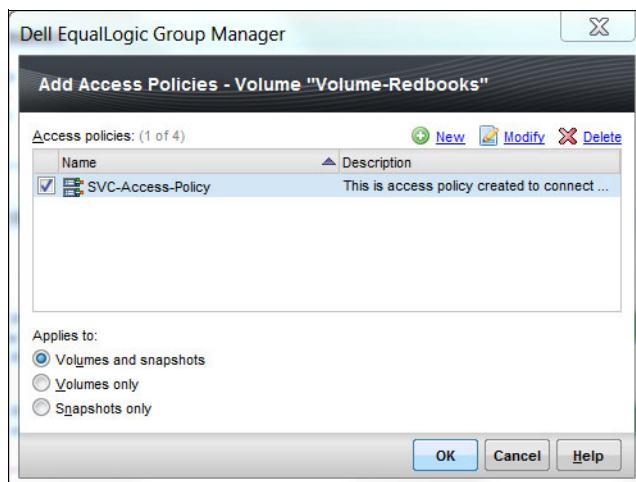

Figure 14-21 Selection of the access policy
- Select the access policy that you want to apply on the volume. You can optionally create a new access policy by clicking **New**, which takes you to the access policy creation wizard that is described in 14.2.2, “Setting up access policies” on page 271. Click **OK**. The access policy is now applied to the volume. Figure 14-21 shows the access policy that is applied to the volume.